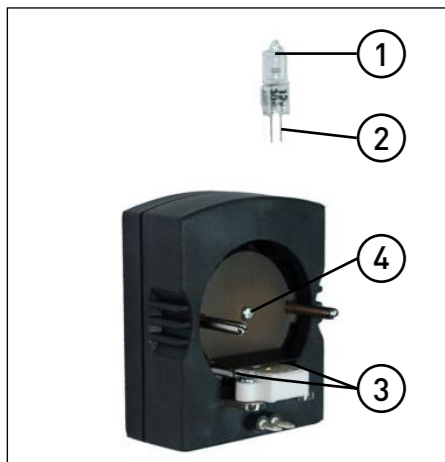

FIGURE 3
2.2.1 Installing and replacing the lamp (Fig. 3)